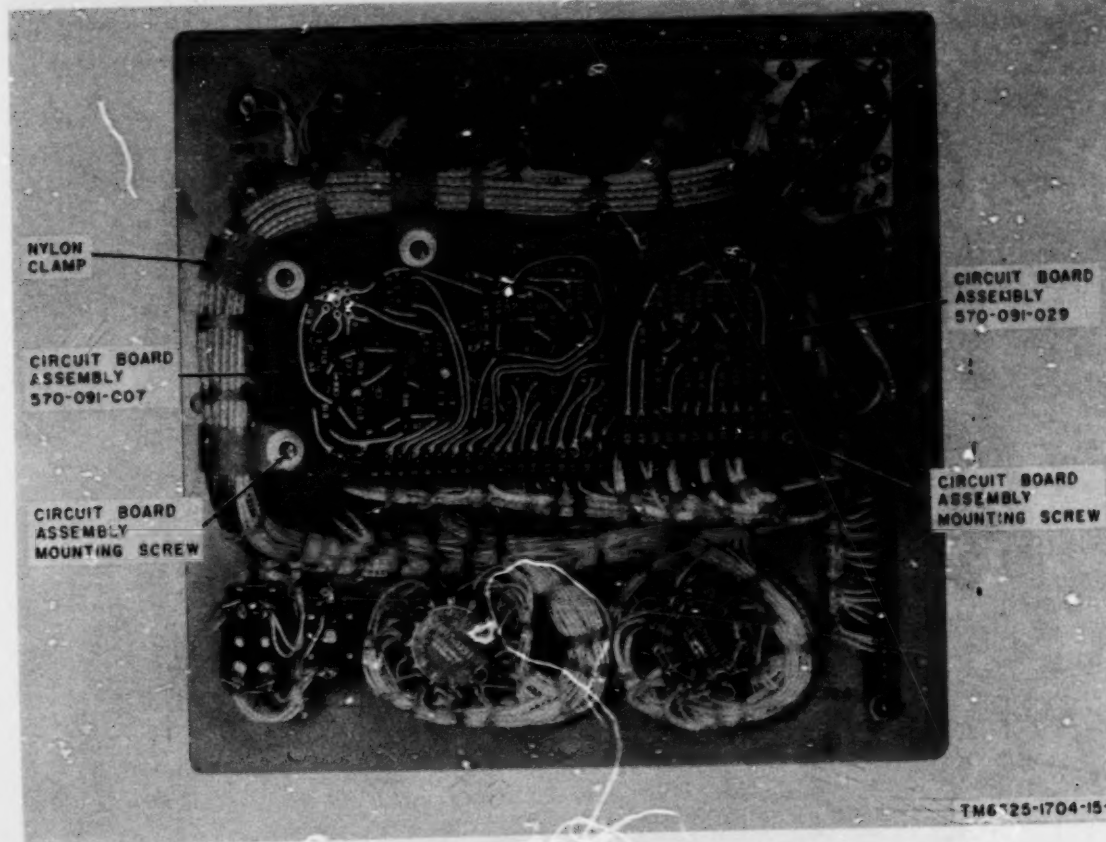

Figure 7-3. Test panel 570-091-018-1, rear view showing circuit boards and mounting hardware.
(1) Remove the three machine screws and spacers that secure it to the support bracket of the test panel (fig. 7-3).
(2) Unsolder the twelve leads connecting the terminals on the subassembly to terminals of components mounted on the test panel.
(1) Accomplish step b (1) of paragraph 7-2.
(2) Grasp 570-091-029 circuit board and fold gently away from circuit board 570-091-007.
(3) Remove the three remaining machine screws and cable clamps that secure the 570-091-007 to the support bracket of the test panel (fig. 7-3).
(4) Unsolder the forty-three leads connecting the terminals on the subassembly to terminals of components mounted on the test panel.